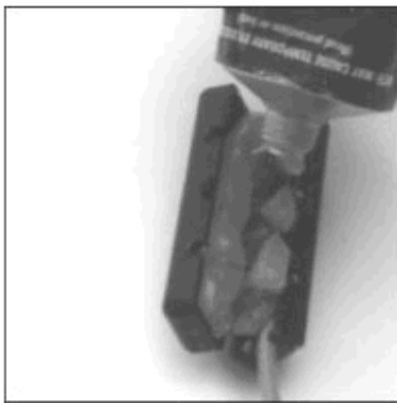

Figure 2.17 Filling the Splice Enclosure
10. Coat the inside of the splice enclosure with Dow Corning #4 ® or GE Novaguard G624 ® moisture protection compound (Figure 2.17).